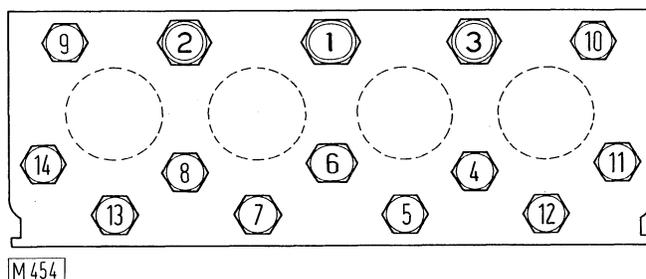

Fig. 2-8 Cylinder Head Tightening Diagram
- Position the cylinder head over the dowels and tighten the hold-down nuts in three stages according to the sequence shown in fig. 2-8.